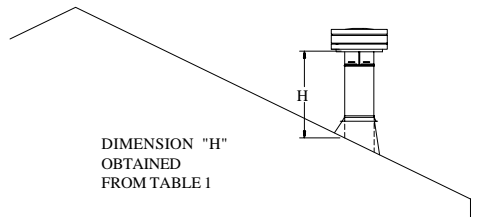

Fig 16
Step 8. Continue to add Pipe Sections until the height of the pipe (before adding cap) meets the minimum building code requirements described in Fig 16. Note that for steep roof pitches, the vent height must be increased. In high wind conditions, nearby trees, adjoining rooflines, steep pitched roofs, and other similar factors can result in poor